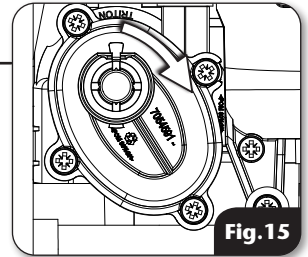

Fig. 15
B. With the cover off the shower, turn the stabiliser valve spindle fully clockwise until resistance is felt (**fig. 15**).